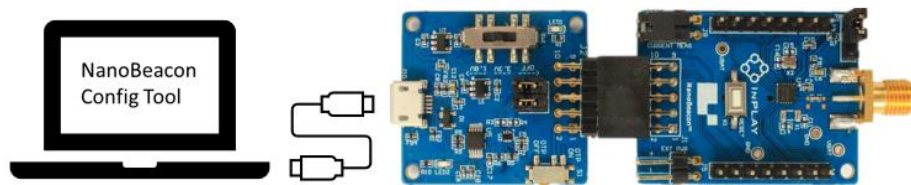

Figure 4 Connect NanoBeacon DK board to programmer board
Step 1: Insert IN100 NanoBeacon DK board into the programmer board (make sure to follow the orientation as shown in Figure 4).